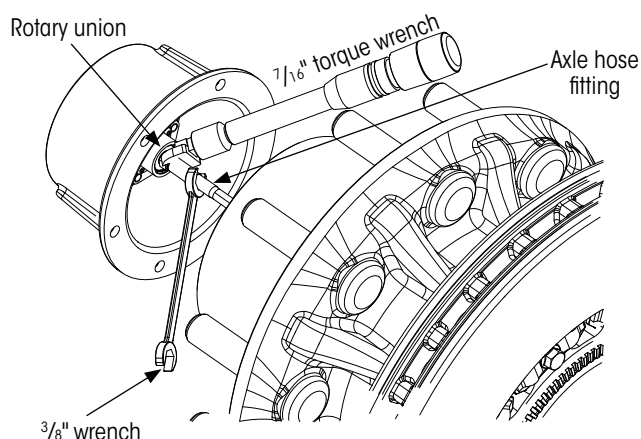

Figure 21: Hubcap to axle hose connection
1. Draw just enough axle hose out from center of spindle to **attach** axle hose fitting to the rotary union inside the hubcap (Figure 21).
4. **Using** a 3/8-inch wrench to prevent rotation of the axle hose fitting, (Figure 21) **tighten** the rotary union shaft to 50±5 in. lbs. (5.7±0.6 Nm) of torque.